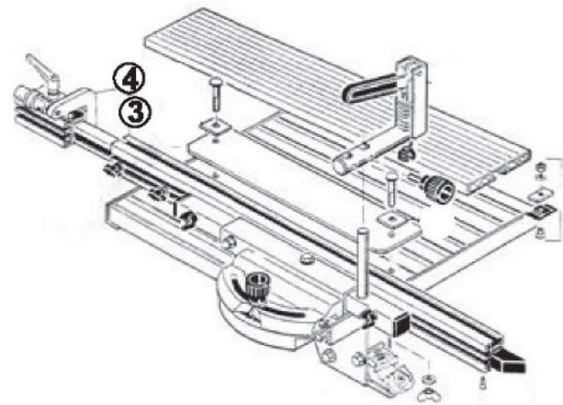

Fig. 13: Adjusting the scale holder
Step 2: Insert the guide rail (item 3, Fig. 13) into the groove on the work surface and tighten the knurled screws.
Step 3: Insert the folding stop (item 4, Fig. 13) into the guide on the end stop and secure the clamping lever.